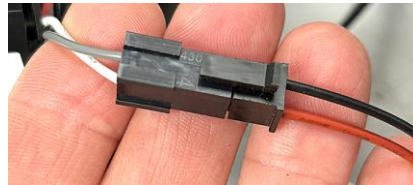

Figure 32
30. Connect the 8076535-coupler two (2) wire 4-pin power cable connector (gray & white) to the two (2) wire (black & red) 4-pin power harness (see Figure 32).